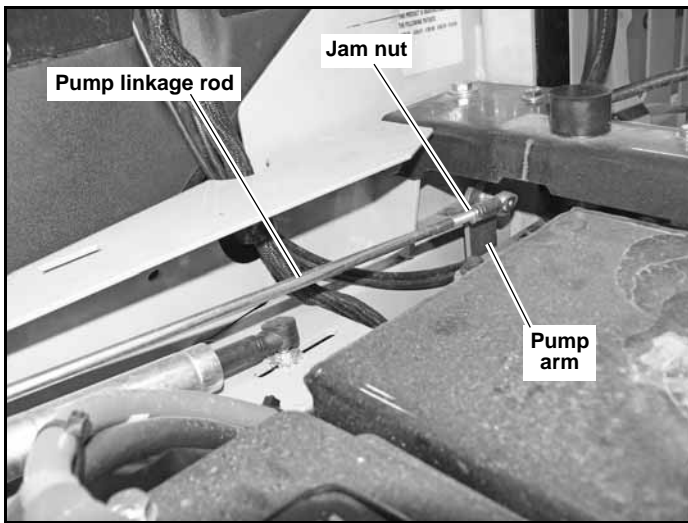

Figure 4-3
6. If wheel(s) are rotating forward, loosen the jam nuts on the pump linkage rods and rotate the rod to lengthen the steering control linkage until the wheel(s) come to a stop. Figure 4-3
shorten the steering control linkage until the wheel(s) come to a stop. Figure 4-3